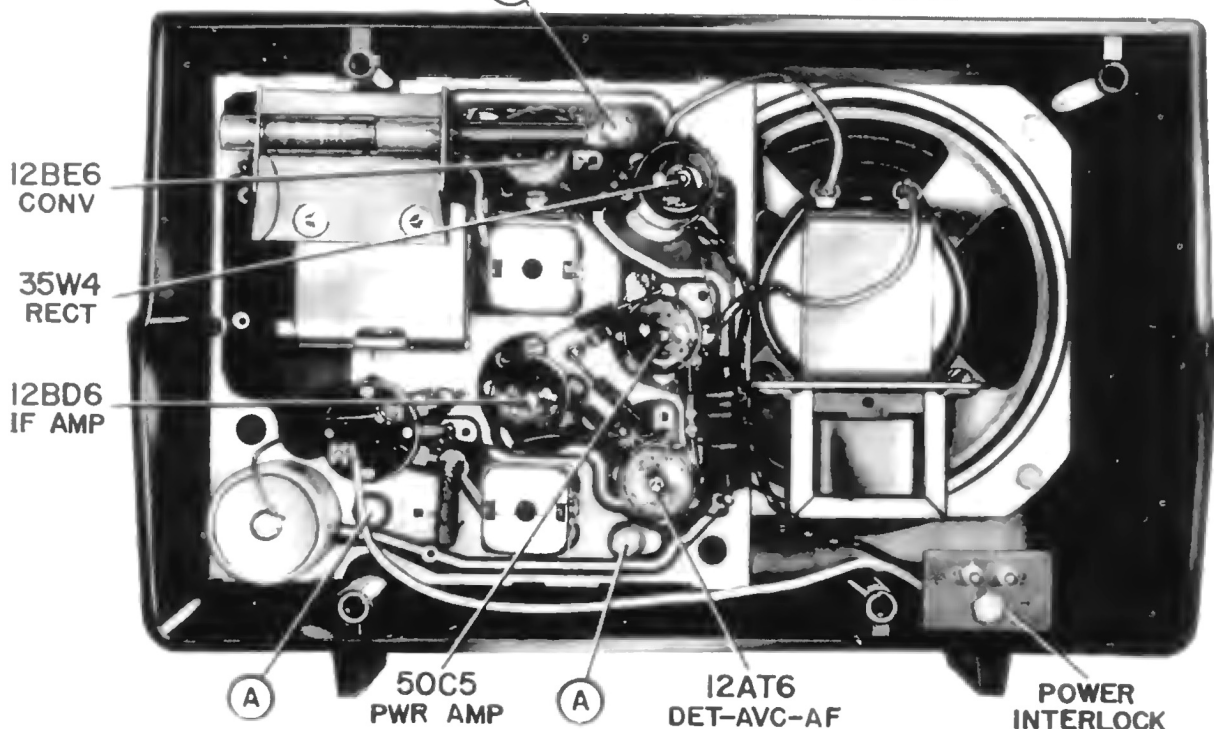

FIGURE 1. REAR VIEW OF RECEIVER (LATE MODEL)
6. From the back, remove the three screws which mount the chassis. CAUTION: Do not lose the insulating washers on the screws - they prevent damage to the printed circuit by the heads of the screws. See Figure 1.